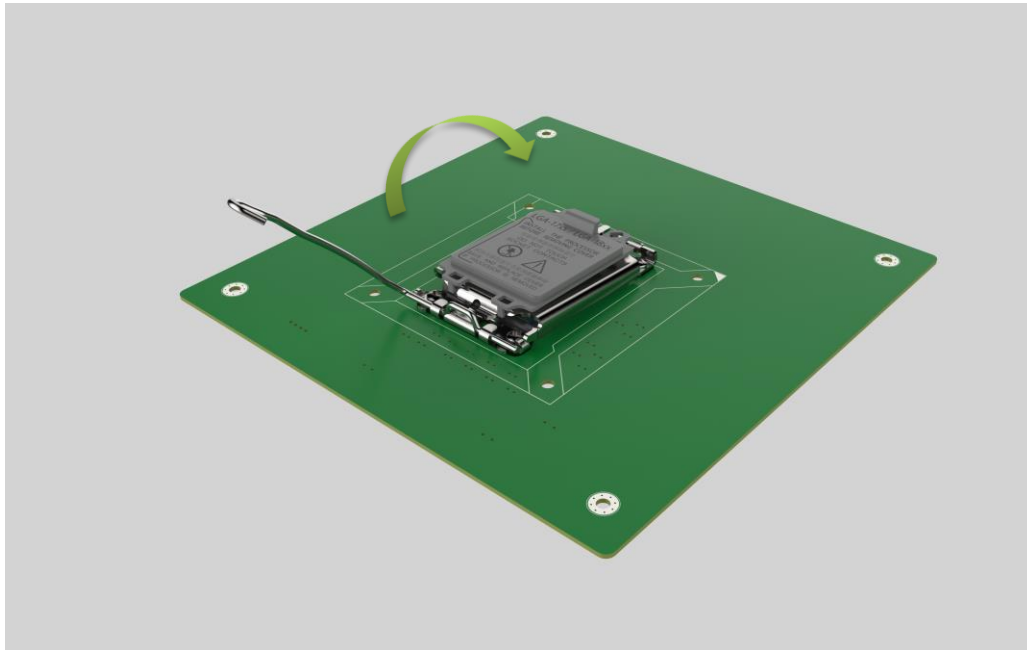

Figure 4-6: Close the Socket LGA1200
- Step 8: Close the CPU socket.** Close the load plate and pull the load lever back a little to have the load plate be able to secure to the knob. Engage the load lever by pushing it back to its original position (**Figure 4-6**). There will be some resistance, but will not require extreme pressure.